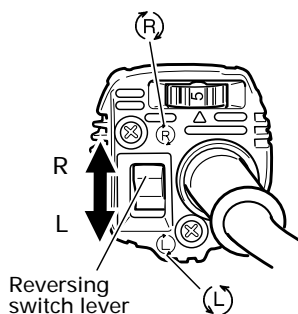

Fig. 3
8. Confirm the direction of bit rotation (Fig. 3)